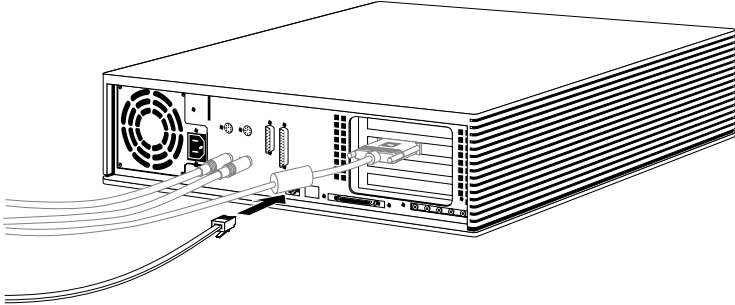

Figure 2-15 Attaching an Ethernet 10-BASE T Cable to the Indigo² Chassis
- 2. Plug one end of the cable into the Ethernet 10-BASE T port on the back of the Indigo² chassis, as shown in Figure 2-15.